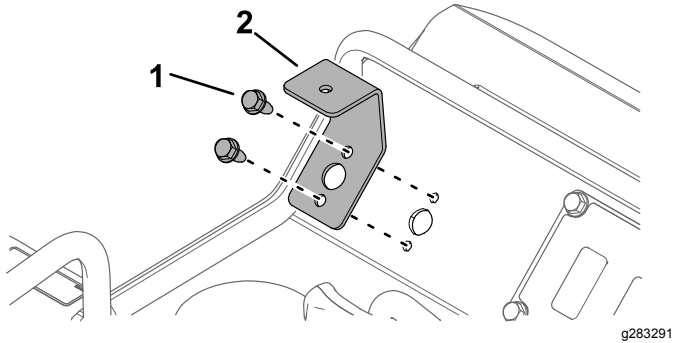

Figure 3
2. Install the left light bracket using 2 thread-cutting screws (Figure 3).